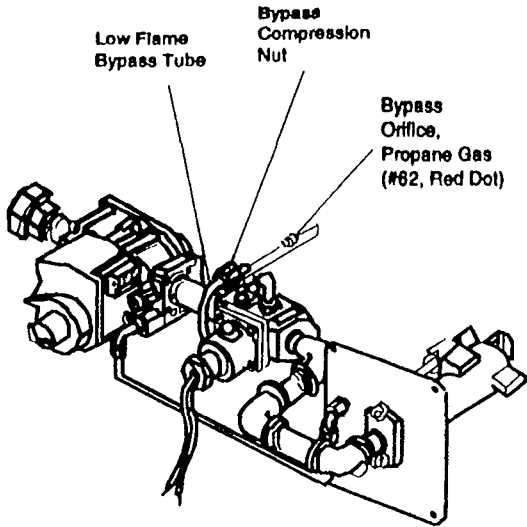

Figure 3
- 1. Unscrew the bypass tube compression nut and slide out of the way. Pull the tube from the fitting to expose the bypass orifice as shown in Figure 3.